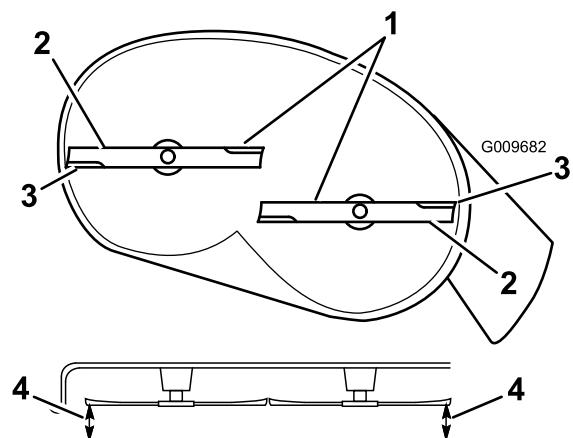
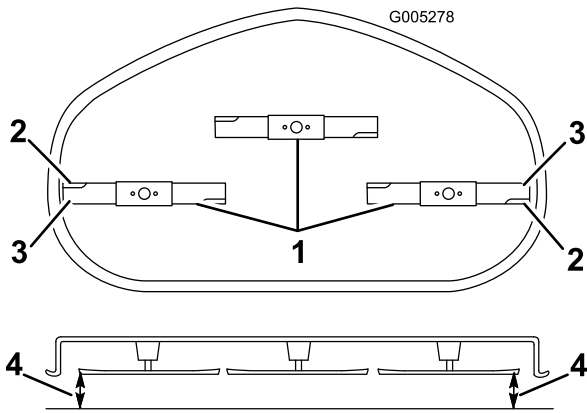

Figure 47
Figure 48
4. Carefully rotate the blades so that they are all side to side (Figure 47 and Figure 48).
- Measure between the outside cutting edges and the flat surface (Figure 47 and Figure 48). If both measurements are not within 3/16 inch (5 mm), an adjustment is required; continue with this procedure.